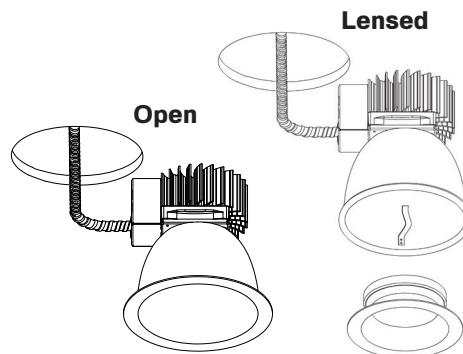

Fig. 4
3. Let the LED heatsink assembly hang out of ceiling cut-out. Attach the LED heatsink assembly to the open reflector, via key-hole slots and screws. If you have a lensed trim, the lensed splay must be pulled out of the reflector to attach and tighten the screws. **Figure 4.**